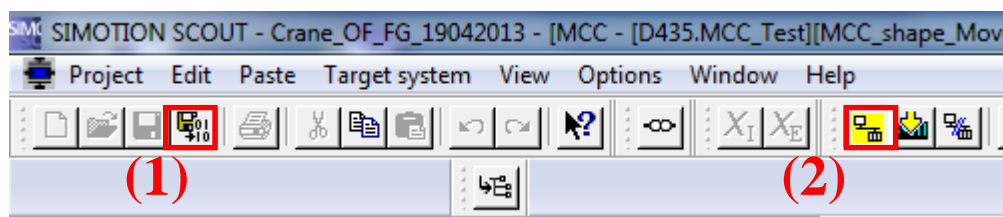

Figure 6: Simotion Scout menu bar
- h. Compile the code using button (1) in Figure 6. Make sure button (2) is depressed. This puts the PLC online with Simotion Scout.
- Various variables can be monitored in Simotion Scout by selecting “Global device Variables” and looking at the “symbol browser” located at the bottom of the screen (Figure 11). These variables contain camera measurements, model and plant states, control signal u , and error between the model and plant states. These are there to help you debug. Make sure the system is “online” as shown in Figure 6 to see these values updated in real-time. Alternatively, a watch table called “Y_States_Watch” contains only the most important variables. As shown in Figure 12, the table is accessed under Monitor at the bottom of the Project Tree.